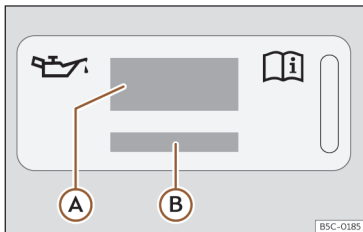
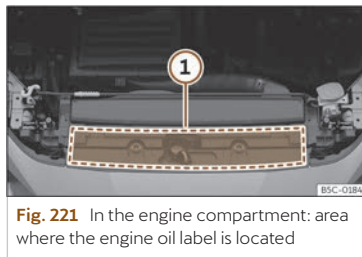

Fig. 220 In the engine compartment: engine oil label
Fig. 221 In the engine compartment: area where the engine oil label is located
Key to the >>> **Fig. 220:**
If the engine oil has to be topped up, use one of the oils shown on the label >>> **Fig. 220**. The label with the prescribed standard is located at the front of the engine compartment >>> **Fig. 221** (1). If you use the recommended engine oil, you can top up the oil as often as necessary.
- If the label showing the engine oil specifications is missing >>> Fig. 220, please contact a specialist workshop.